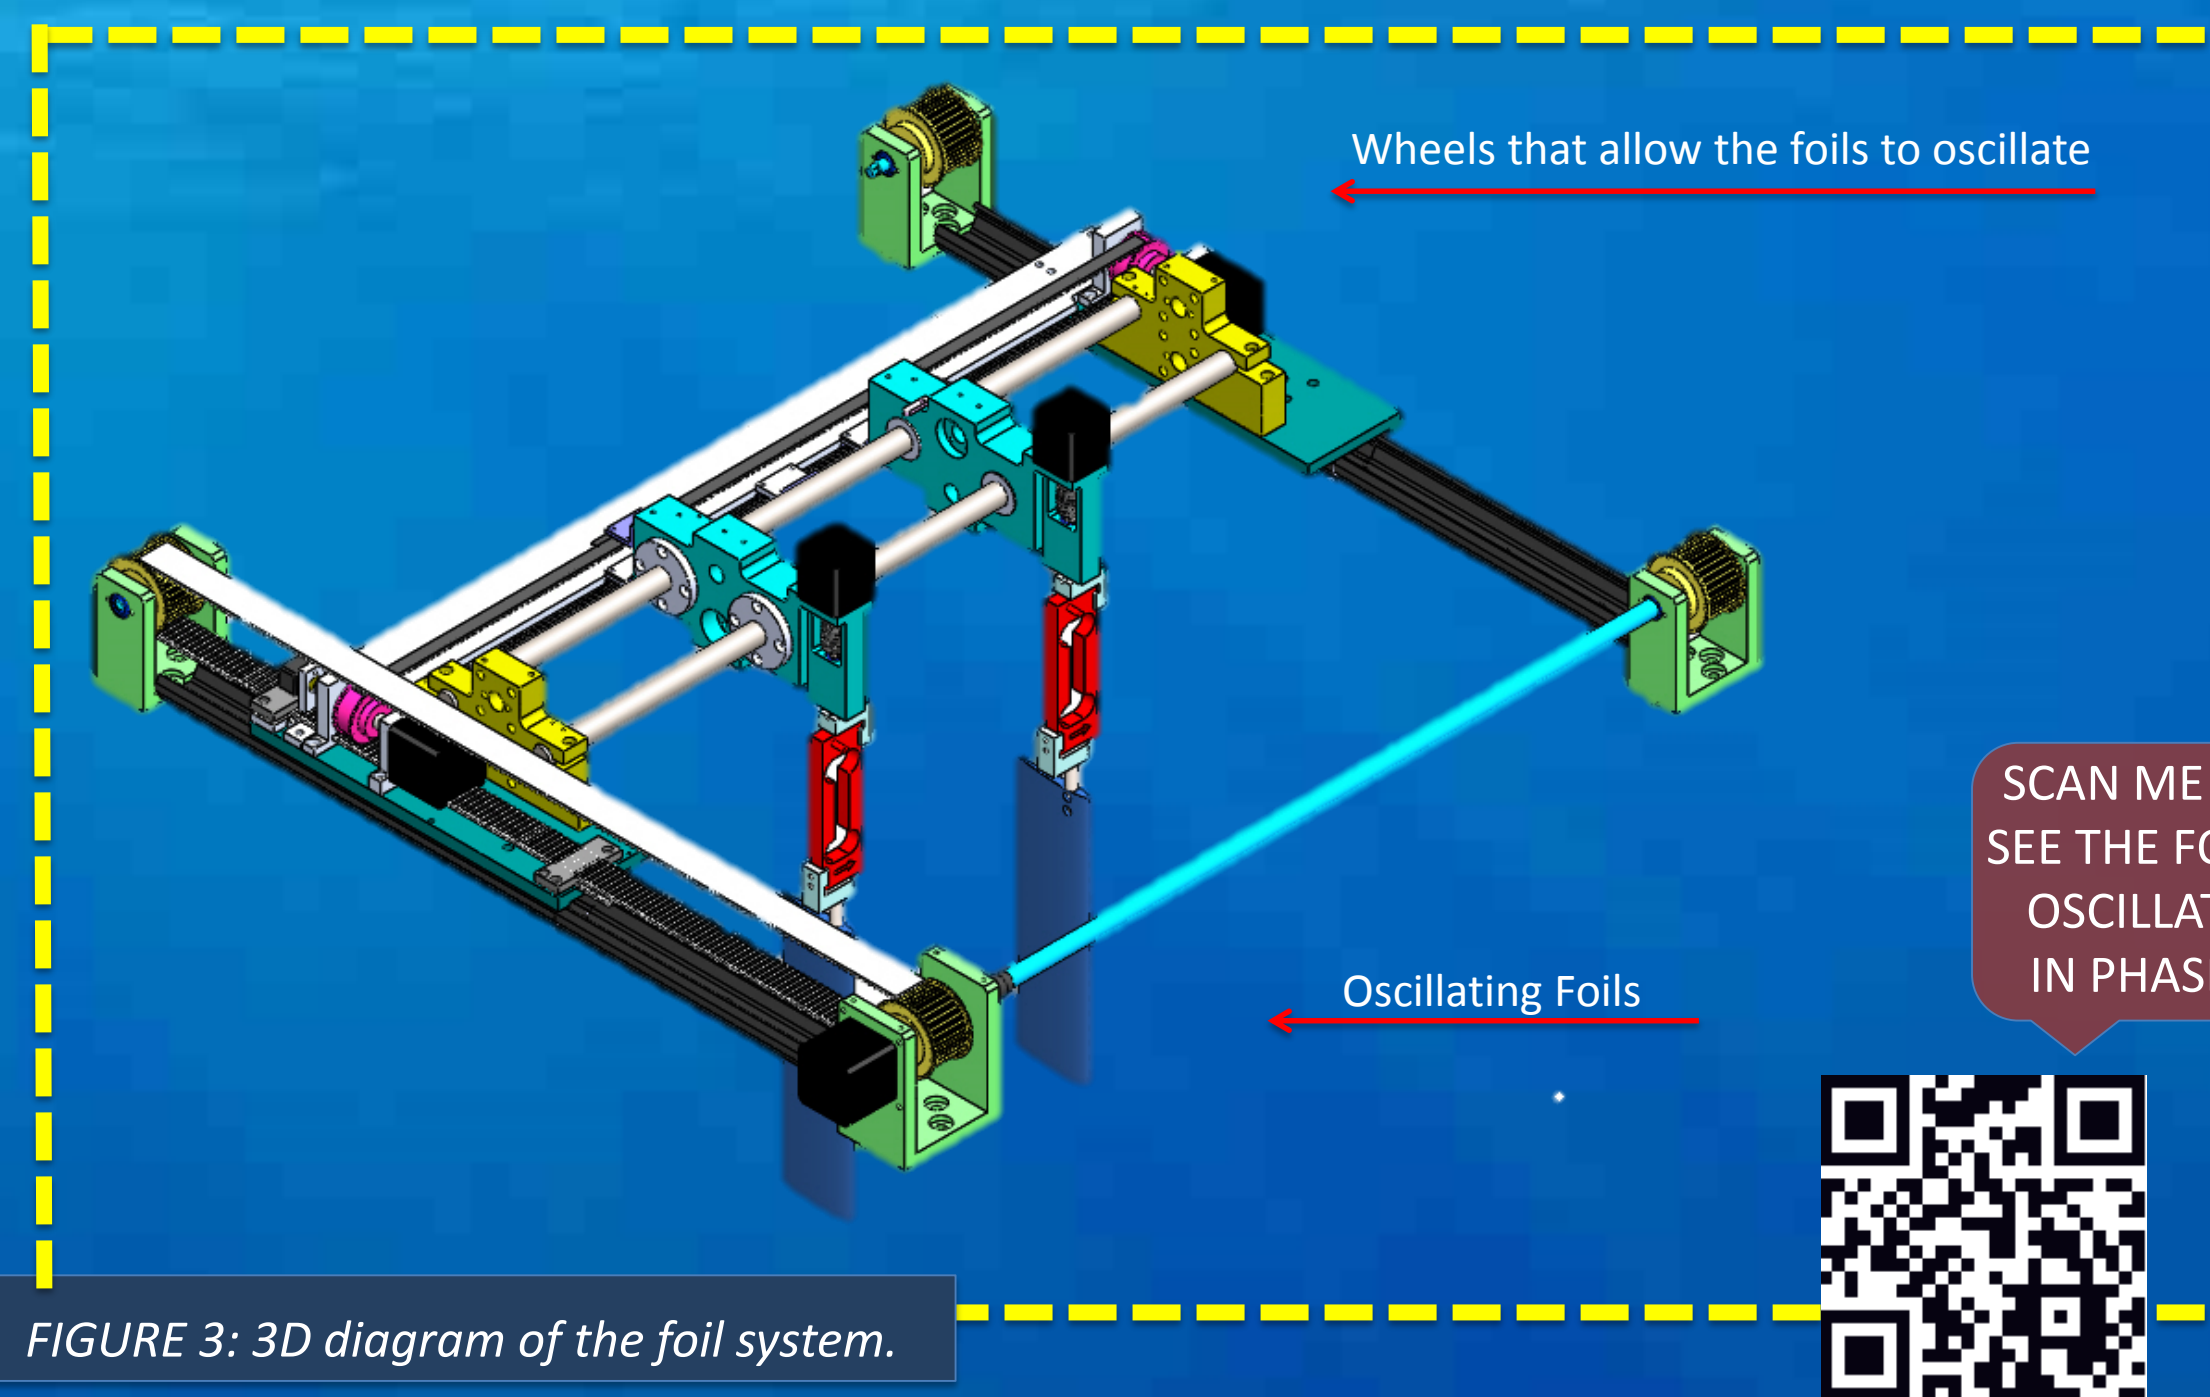

FIGURE 3: 3D diagram of the foil system.
1. Obtain the data from running the experiment for one foil [Figure 3].